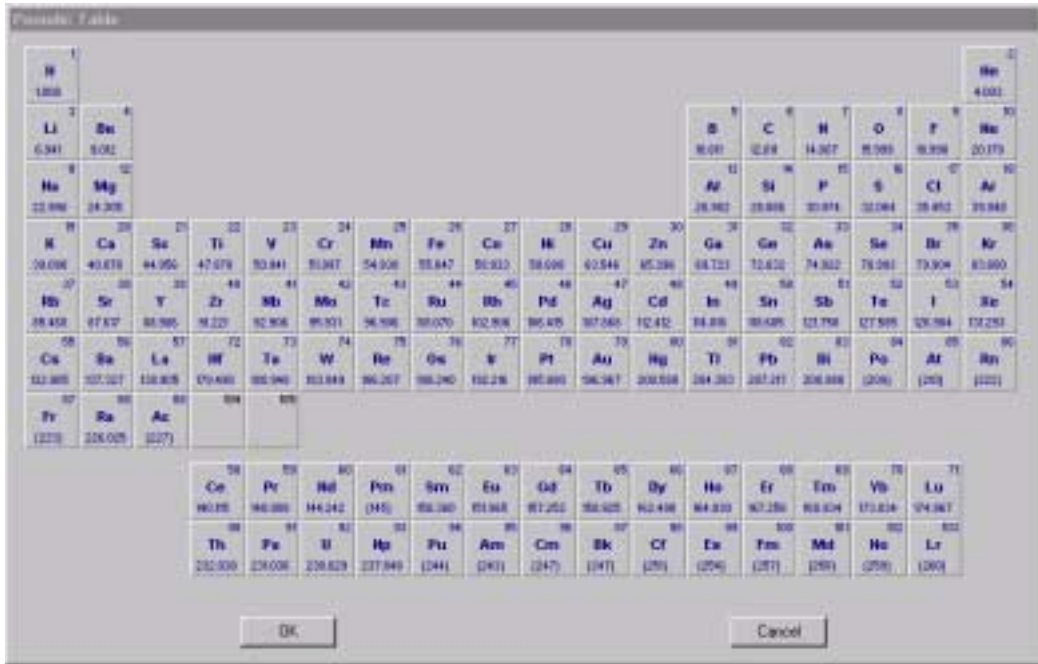

Figure 6-6 Periodic Table
2. Click . The Periodic Table (Figure 6-6) is displayed.